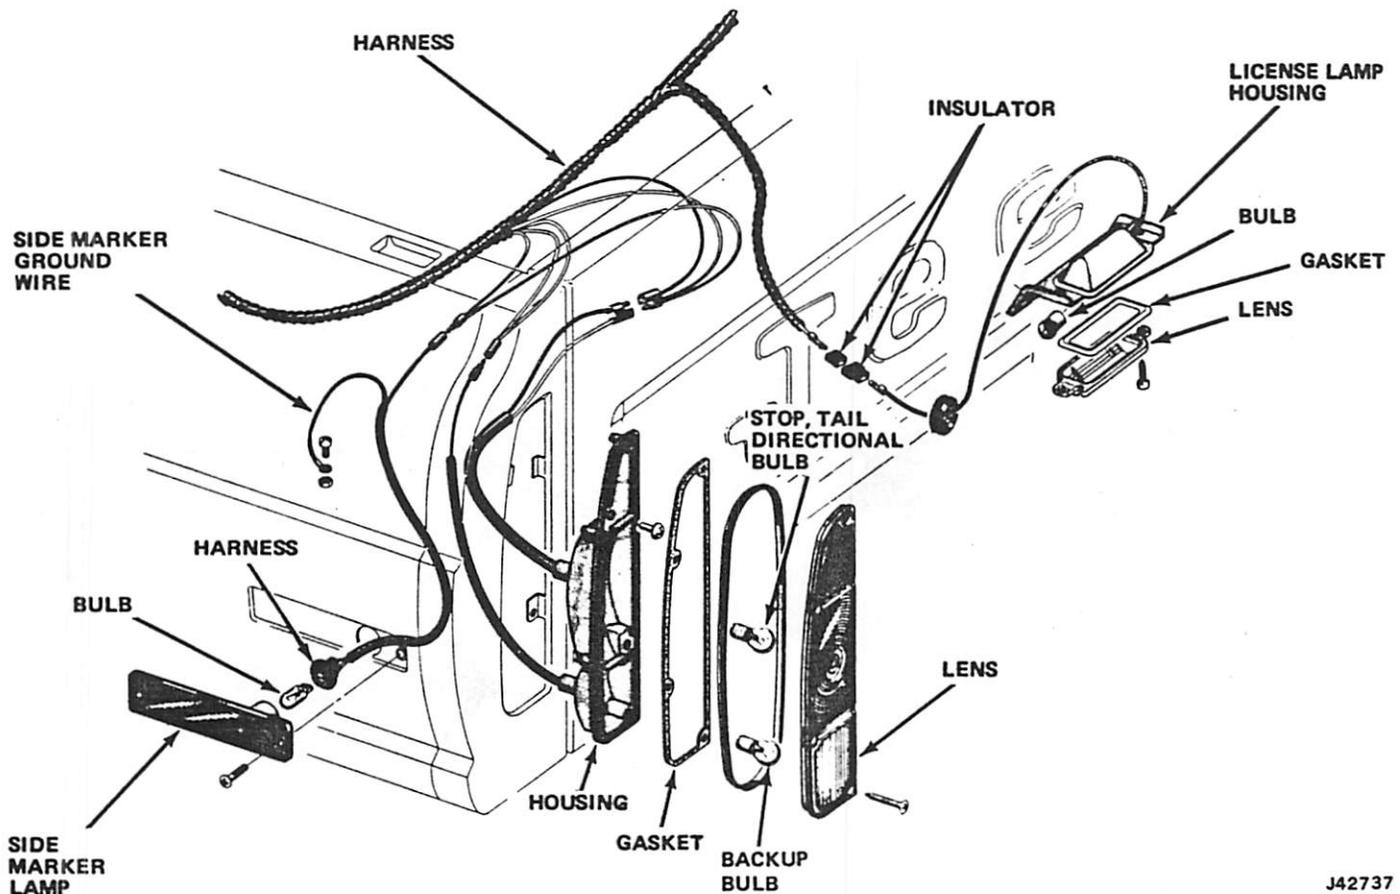

Fig. 3R-10 Rear Directional, Stop, Backup, Tail lamps and Side Marker—Townside Truck
(5) Remove steering wheel with Steering Wheel Puller J-21232-01.
(6) Lift lock plate cover.
(7) Use Lock Plate Compressor Tool J-23653 to depress lock plate (fig. 3R-12).
(8) Pry round wire snap ring from steering shaft groove.
(9) Remove Lock Plate Compressor Tool, snap ring, lock plate, directional signal canceling cam, upper bearing preload spring and thrust washer from steering shaft.
(10) Place directional signal actuating lever in right turn position and remove lever.
(11) Depress hazard warning light switch, located on right side of column adjacent to the key lock, and remove button by turning in a counterclockwise direction.
(12) Remove directional signal wire harness connector block from its mounting bracket on right side of lower column.